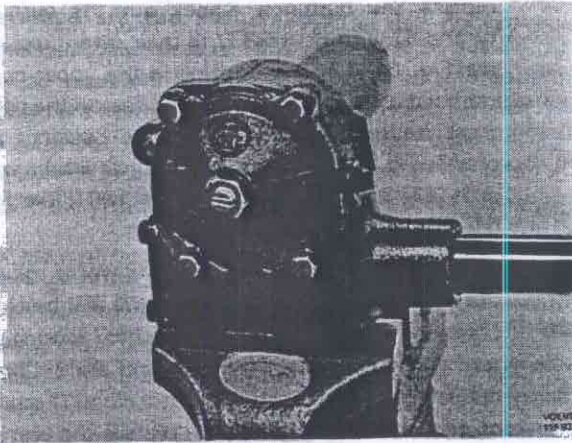

Fig. 64-12. Fixing steering box in vice
2. Fix the steering gear in a vice as shown in Fig. 64-12.